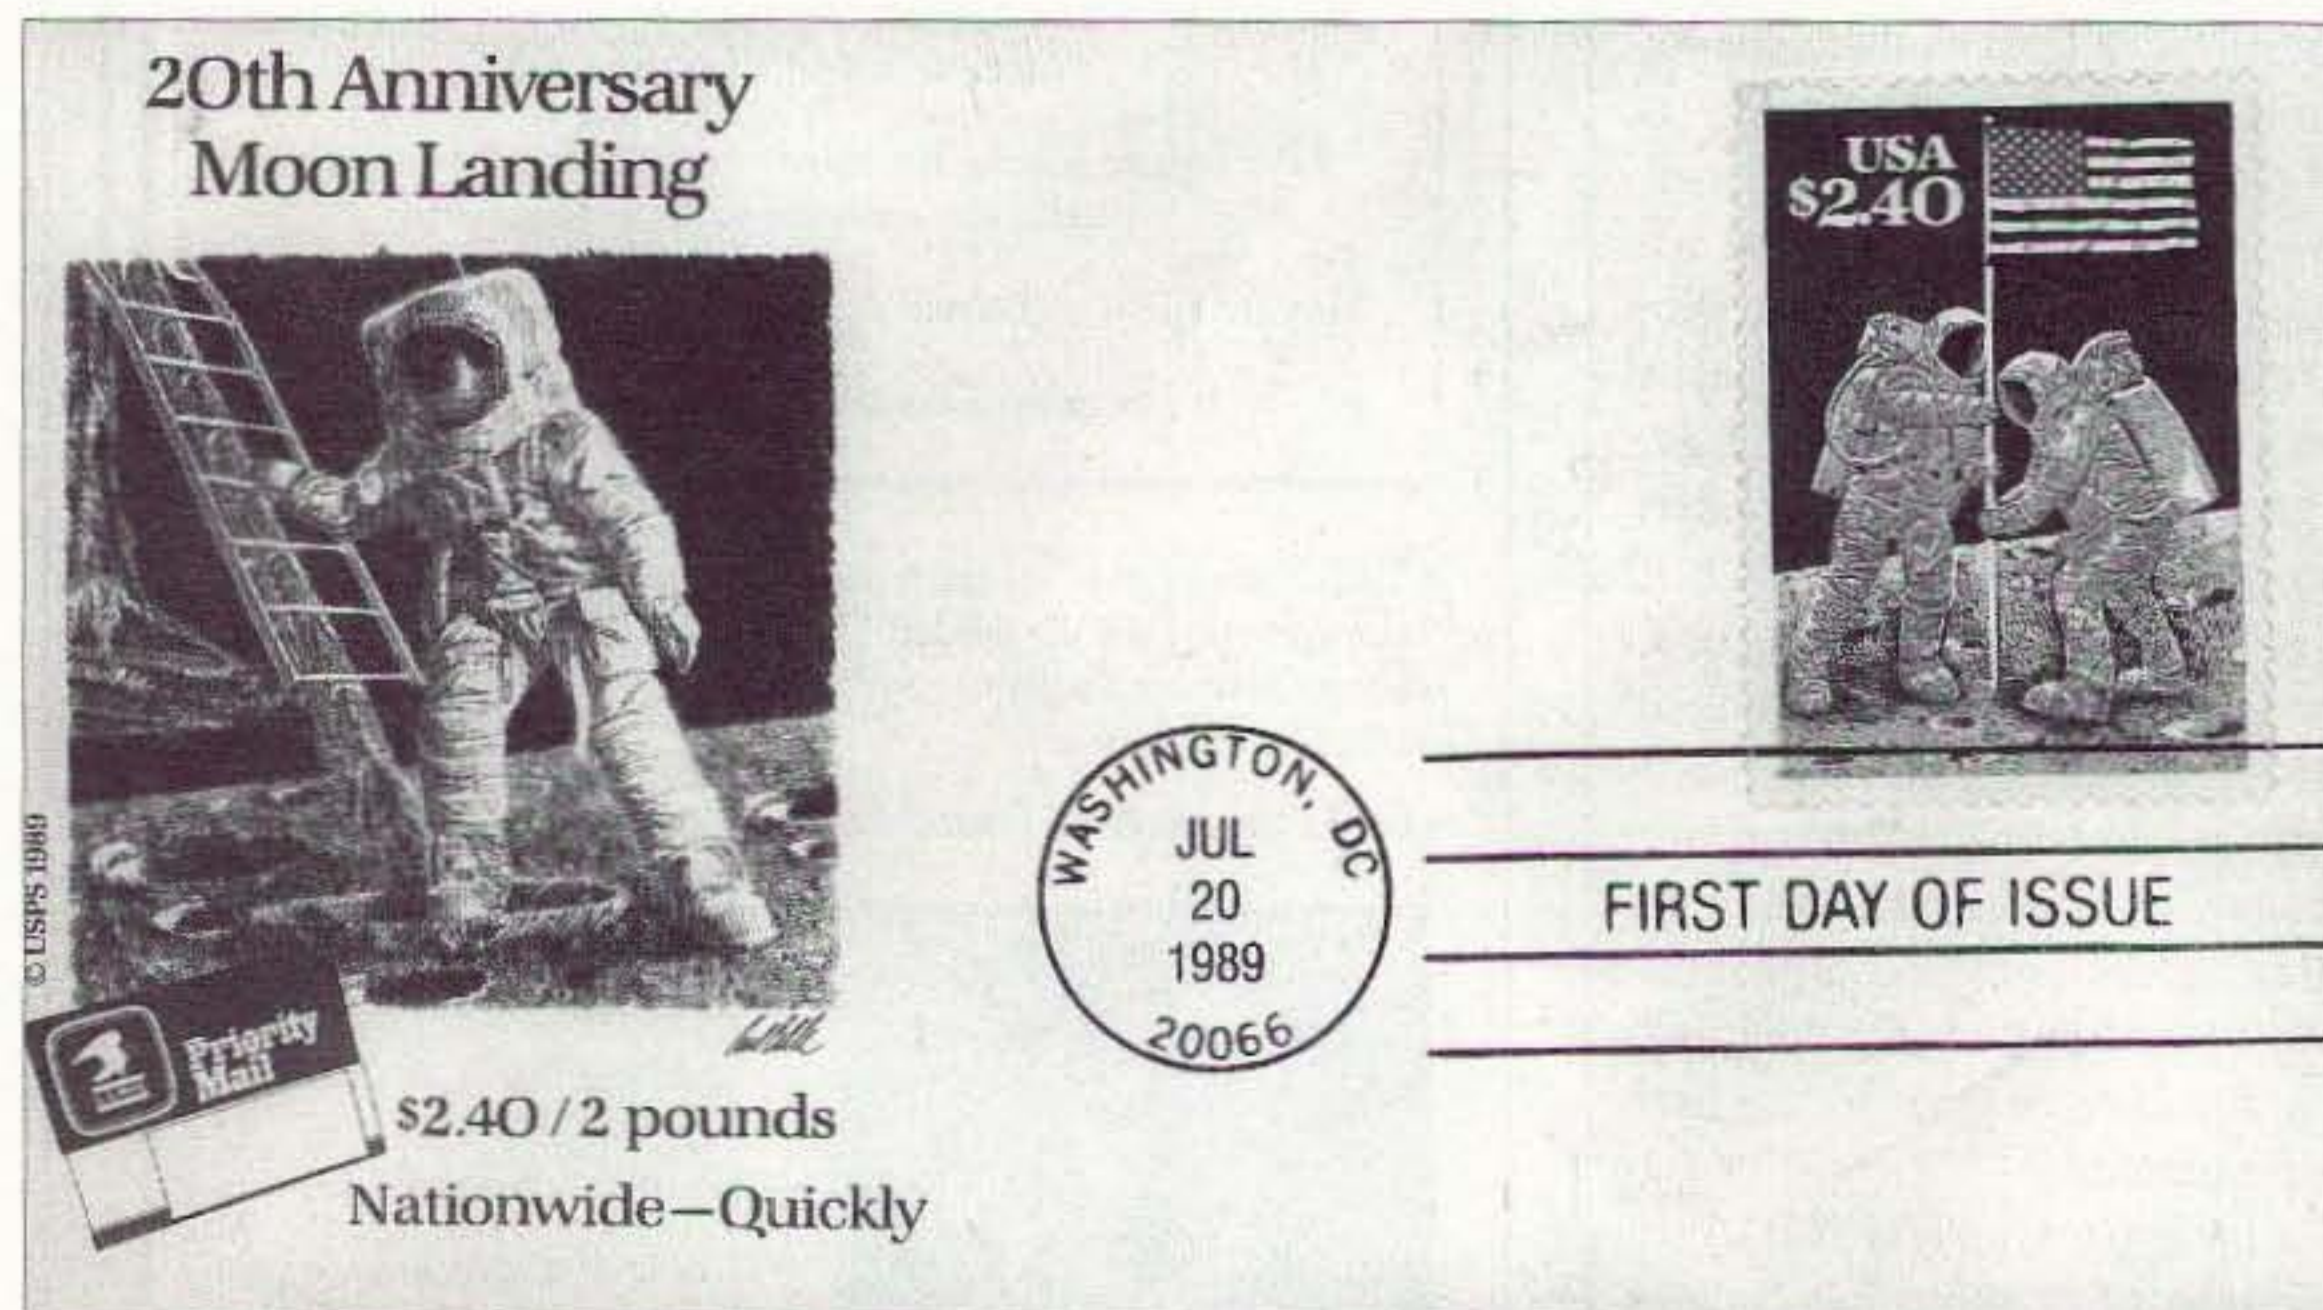

Fig. 1. Postal covers are commemorative envelopes issued by the US Postal Service in honor of historical events.
"use-em-once-&-toss-'em-away" alkaline cells, the choice is pretty clear... especially for battery-operated equipment that's used a lot. Though the better alkaline "AA" cells are rated at 2,450-mAH capacity, 2 or 3 uses from the NIMH cells will quickly put you in the "money-ahead" bracket. **Fig. 1** shows the basic constant-current NIMH 110-mA "safe" charger that I've been using for the "AA" cells in my GPS receiver.—**Dave NZ9E.**
**Fig. 1.** A constant-current (110-mA) nickel metal hydride charger circuit suitable for charging four NIMH cells in series. The value of the 68-ohm resistor may need to be adjusted to achieve 110 mA, depending upon the characteristics of the transformer that's used. See text for further details.